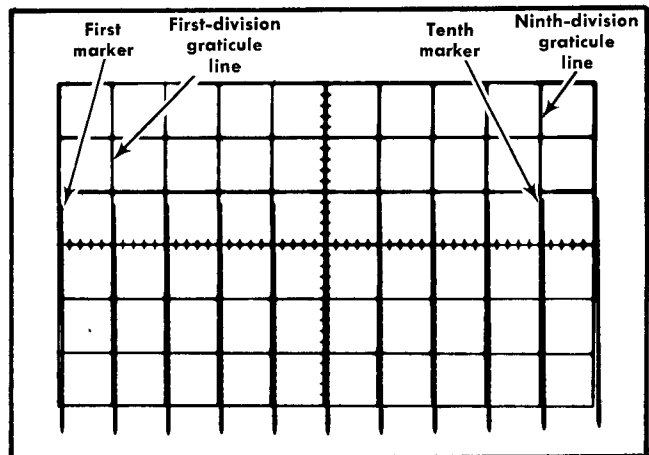

Fig. 5-19. Typical CRT display showing correct A sweep timing.
- a. CHECK—Using the A TIME/DIV switch and time-mark generator settings given in Table 5-2, check A sweep timing within 0.24 division, over the middle eight divisions of the display (within 3%). Fig. 5-19 shows a typical CRT display when checking sweep timing.